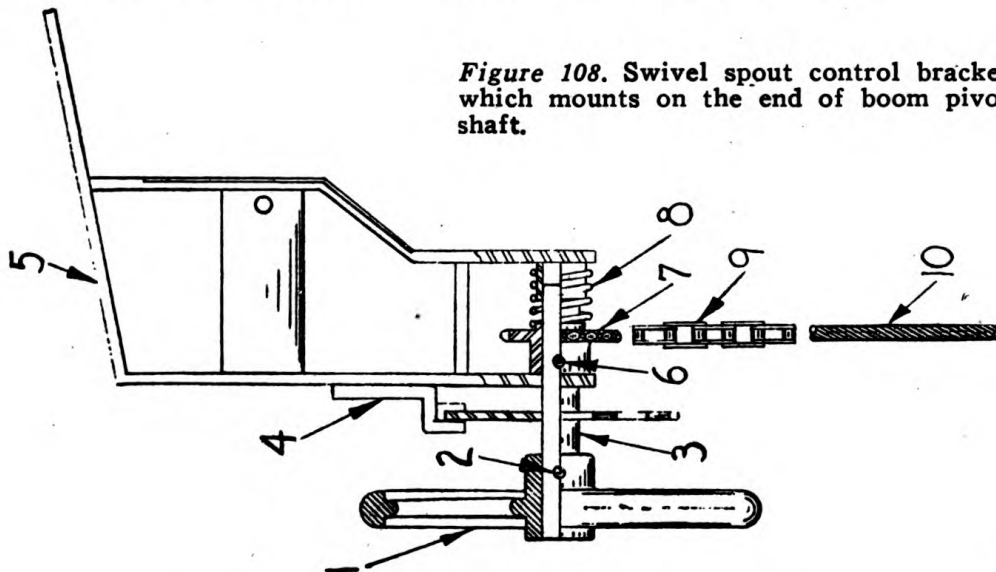

Figure 108. Swivel spout control bracket which mounts on the end of boom pivot shaft.
- (d) Remove set collar (4), Figure 107 and swivel spout control bracket, Figure 108.
The swivel spout control bracket which mounts on the end of Boom Pivot Shaft is made up of hand wheel (1), Figure 108 pinned to shaft (3) by pin (2) with catch (4) bolted to bracket (5). Sprocket (6) is held to shaft with pin (6) and spring (8) provides release for the catch.